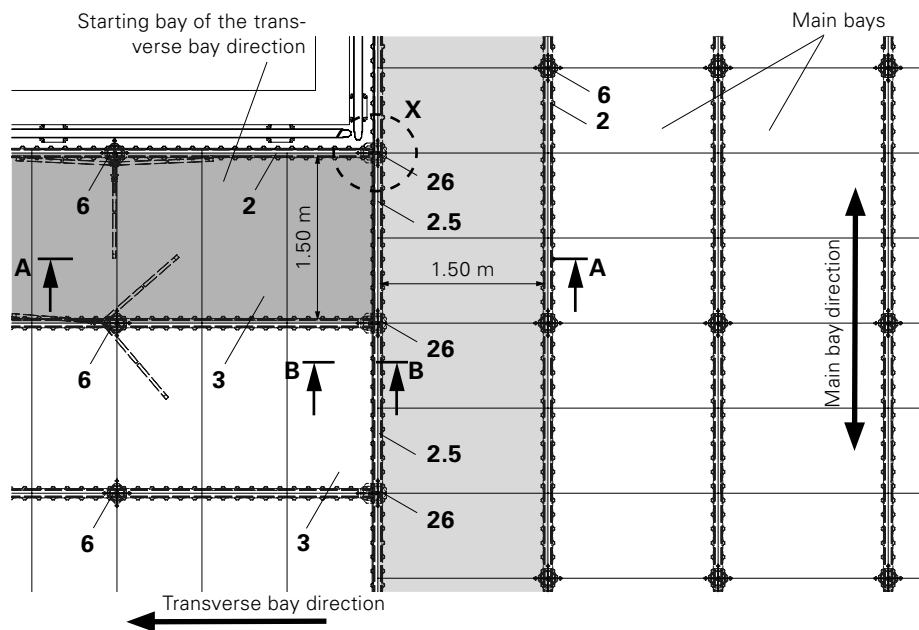

Fig. A10.02
(Fig. A10.02)
1. Install slab prop with Prophead SDSK (26) with a spacing of 1.50 m and secure with tripods.
2. Mount Main Beam SLT 150 (2.5) – instead of SLT 225. (Fig. A10.02 + A10.02a)
3. Continue assembling in the direction of the transverse bay with slab prop, Prophead SSK (6) and Main Beams SLT: see Section A4 Shuttering. (Fig. A10.02 + A10.03) Secure slab props with tripods.
4. Install Panels SDP 150 x 75 (3) in the direction of the transverse bay. (Fig. A10.02)